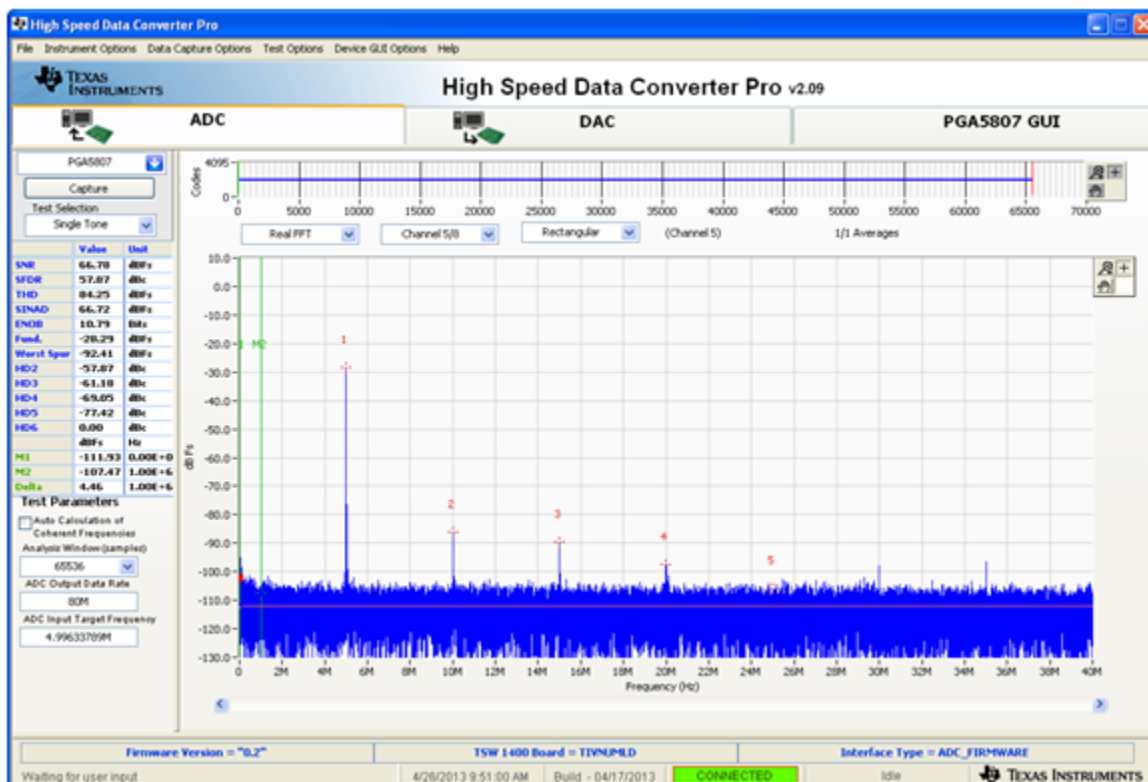

Figure 51. PGA5807A + ADS5296A Gain Test Capture 4
9. Click on the ADC tab and press the *Capture* button to see the result shown in Figure 51. Again, take the difference in the *Fund.* value shown here to previous capture. This difference should equal the difference in **GAIN[x]** value that was set, or 18dB.